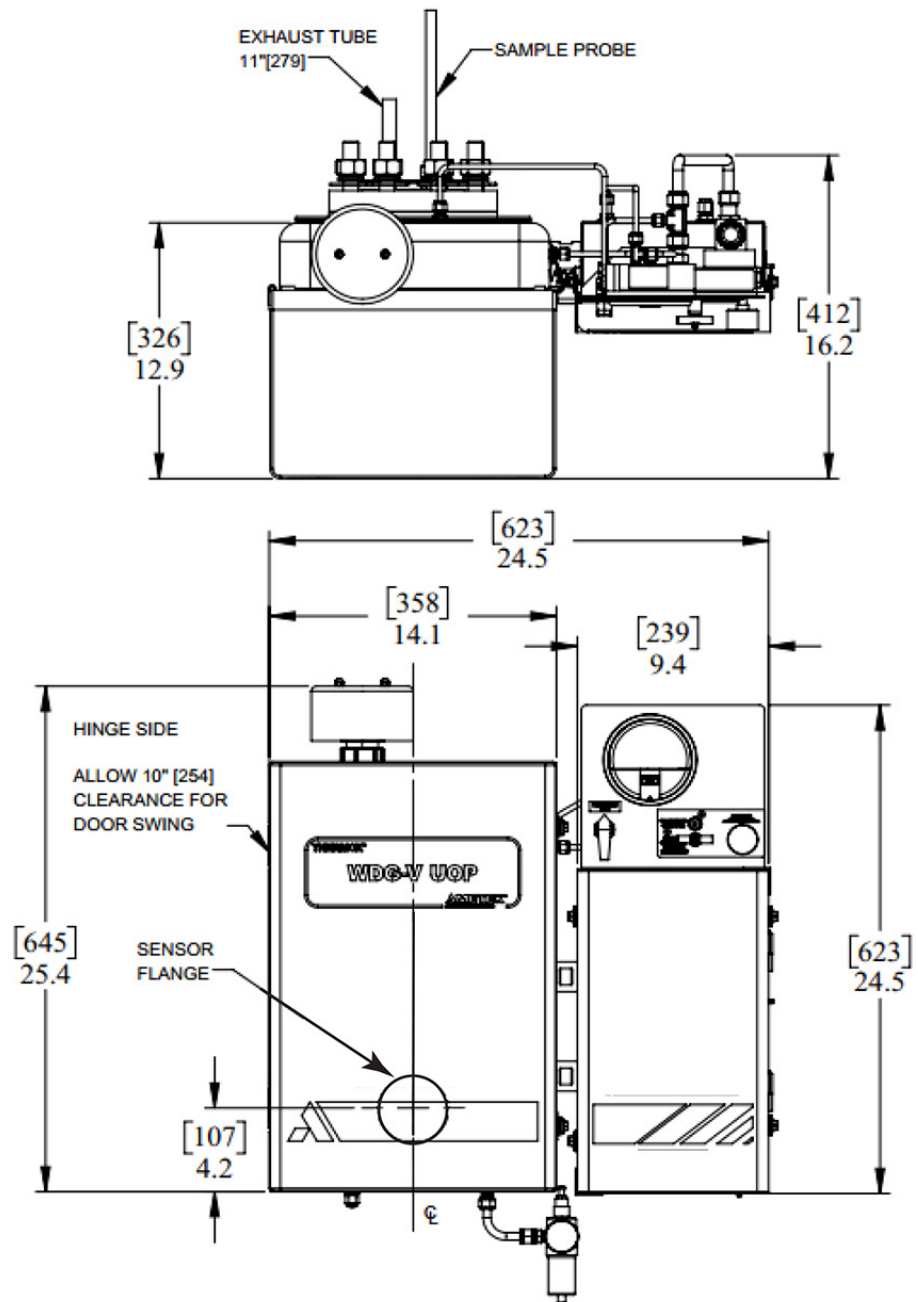

Figure 2-2.
- Mounting dimensions are provided in Figure 2-2.
Mounting dimensions for the hinged style enclosure, including the Z-purge option, are provided in Figures 2-2 and 2-4.